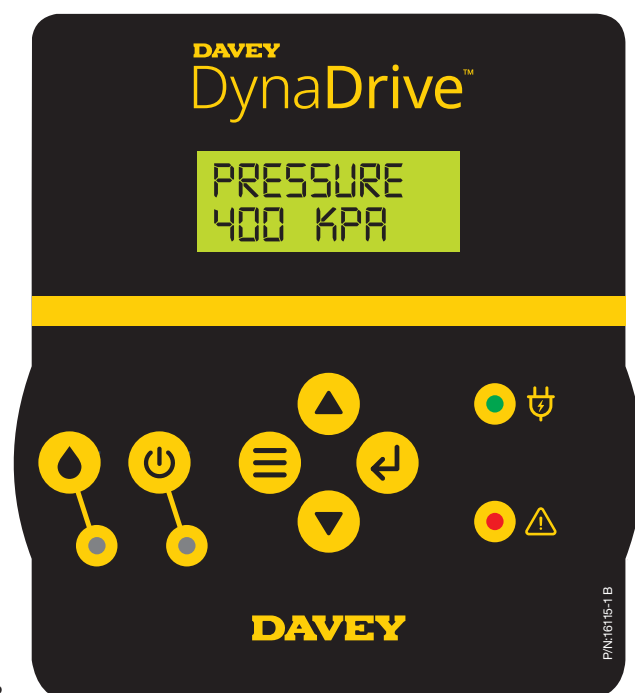

Figure 7.2
- Once the motor has slowed to a stop, press and hold the  **Menu button** and  **Enter button** for ~ 5 seconds. The display will change to show your current set pressure, see figure 7.2;